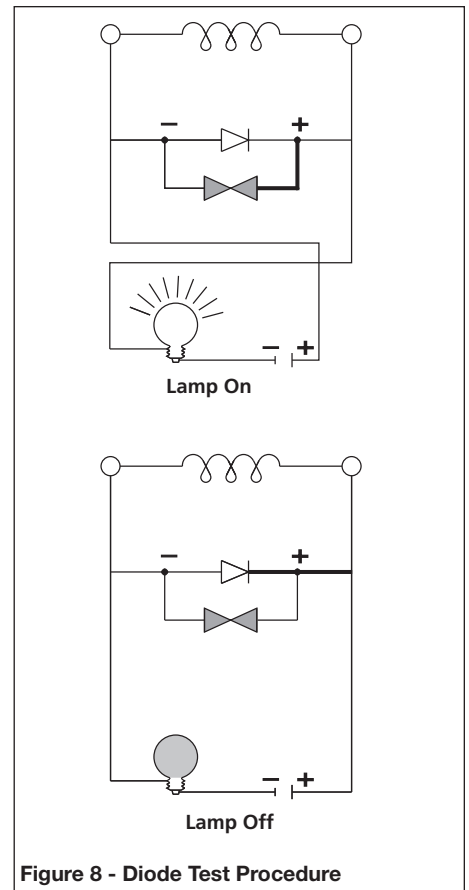

Figure 8 - Diode Test Procedure
2. Connect the battery and lamp as shown in Figure 8.